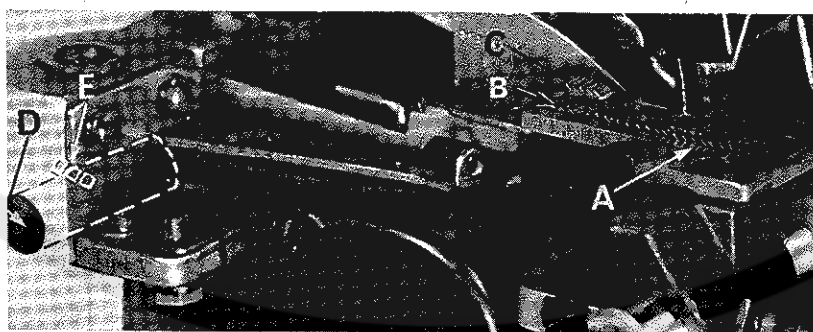

Fig. 12
Now assemble differential (front) feed dog (A, Fig. 12), if not already in place, main (back) feed dog (B) and chaining feed dog (C).
On Styles 39500 QA, RS and TD, set all three feed dogs (A, B, C, Fig. 12) so the top surfaces of teeth all lay in the same plane. This can be checked by sighting across teeth with a straight edge. Now assemble throat plate. Feed dogs should now be leveled with throat plate surface by rotating feed tilting adjusting pin (D). This pin raises or lowers the back end of both feed bars at